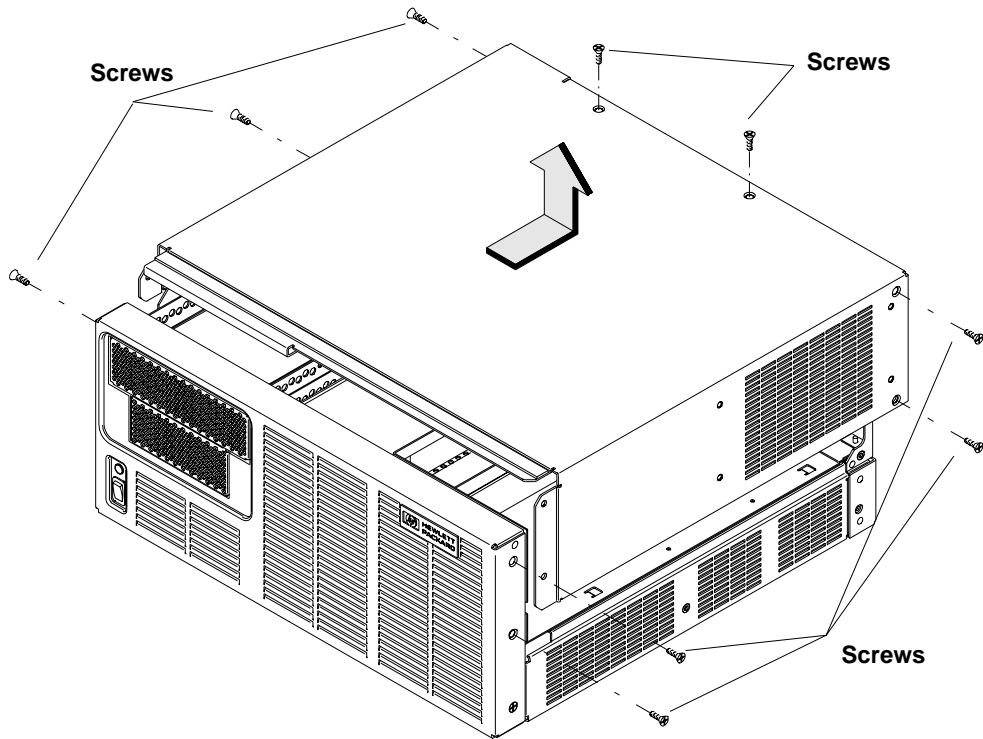

Figure 5-1 **Removing the top cover**
- 4** Remove the top cover of the system, as shown in Figure 5-1. There are nine screws to remove.